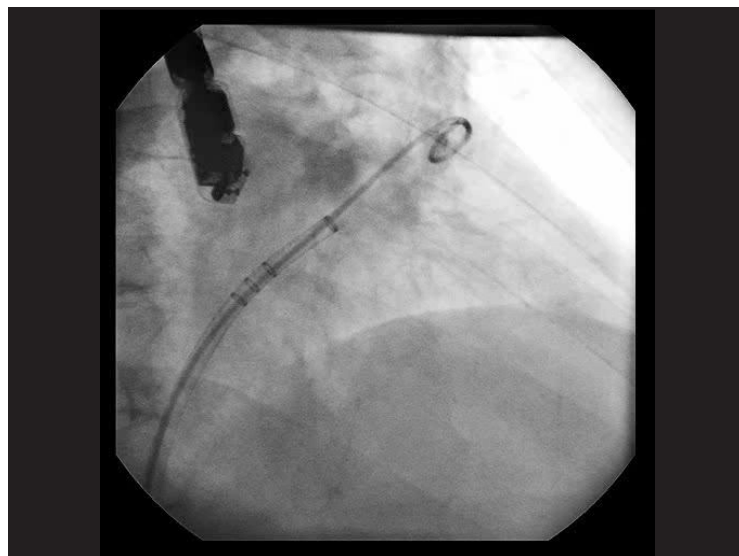
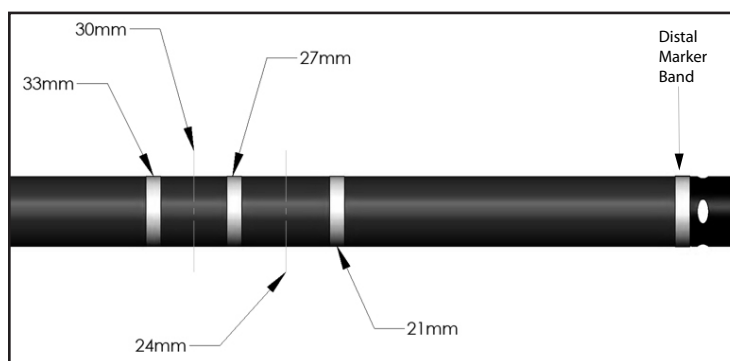

Figure 3. WATCHMAN Access Sheath and Pigtail Catheter
Figure 4. WATCHMAN Access Sheath Marker Bands
- C. Carefully advance pigtail catheter through Access Sheath into distal LAA under fluoro guidance (Figure 3). Carefully advance Access Sheath over pigtail catheter until Access Sheath marker band corresponding to Device size (see Figure 4) is at or just distal to LAA ostium. Slowly remove pigtail catheter.